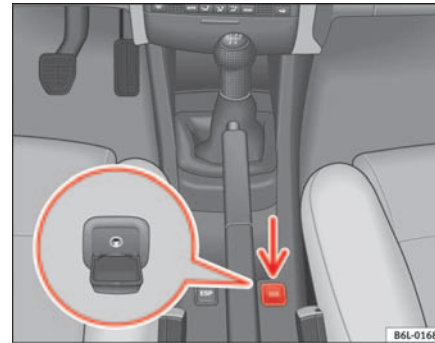

Fig. 83 Auxiliary audio connection
- Lift the AUX. cover ⇒ fig. 83.